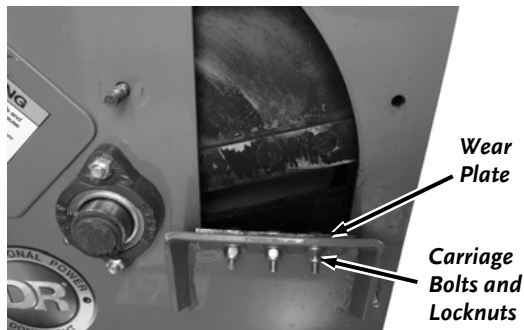

Figure 36
4. To adjust the Wear Plate Gap, loosen the three Nuts on the Carriage Bolts with a 7/16" wrench just enough so the Wear Plate will move but still have a slight resistance. Now you can slide the Wear Plate up or down (in or out) to achieve the correct gap setting (**Figure 36 and 37**).